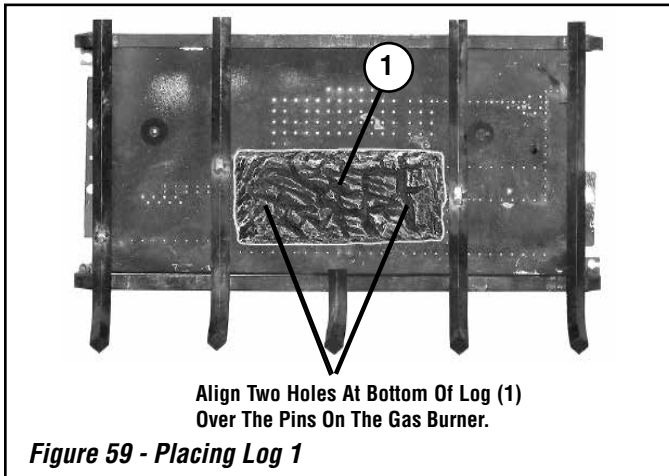
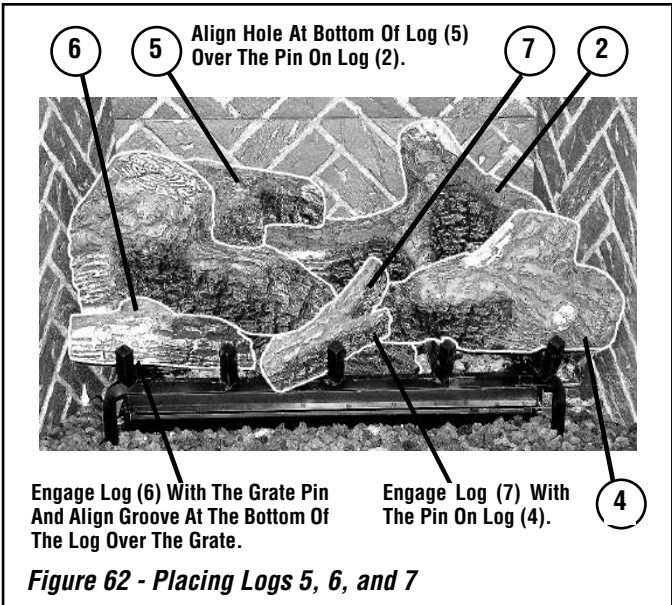

Figure 59 - Placing Log 1
Figure 62 - Placing Logs 5, 6, and 7
- Step 4.** Position the individual logs as shown in **Figure 59** through **Figure 62** on **Page 43**. Logs should be placed in the order shown. Place logs 2 and 3 against the pins on the grate, NOT over them.